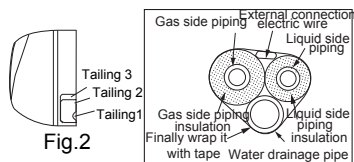

Fig.2
1. When routing the piping and wiring from the left or right side of indoor unit, cut off the tailings from the chassis in necessary (show in Fig.2)